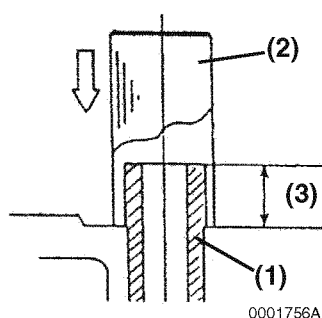

Figure 6-29
3. Finish installing the valve guides (**Figure 6-29, (1)**) into the cylinder head to the proper height (**Figure 6-29, (3)**) using the valve guide installation tool (**Figure 6-29, (2)**). See *Valve Guide Projection specification starting on page 6-5*.